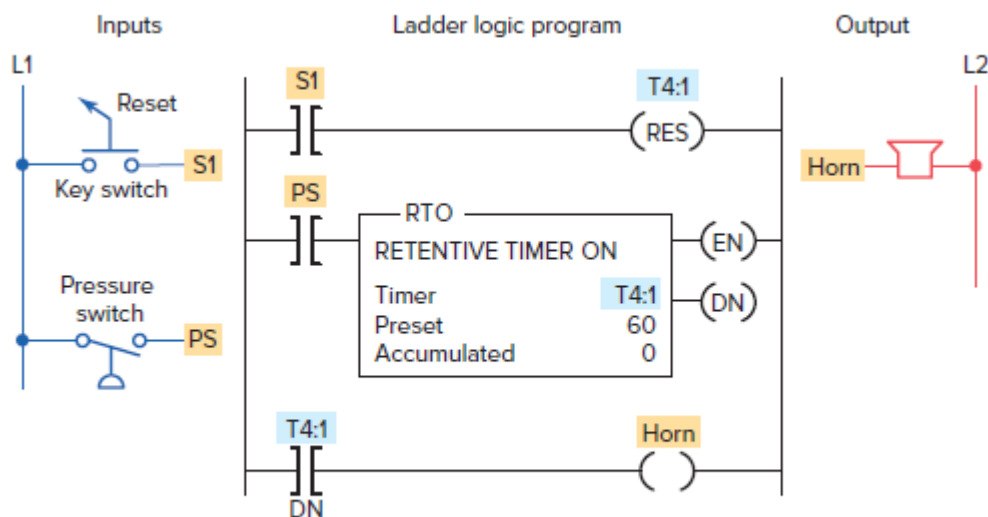

Figure 7-29 Retentive on-delay timer alarm program.
- The program drawn in Figure 7-29 illustrates a practical application for an RTO.